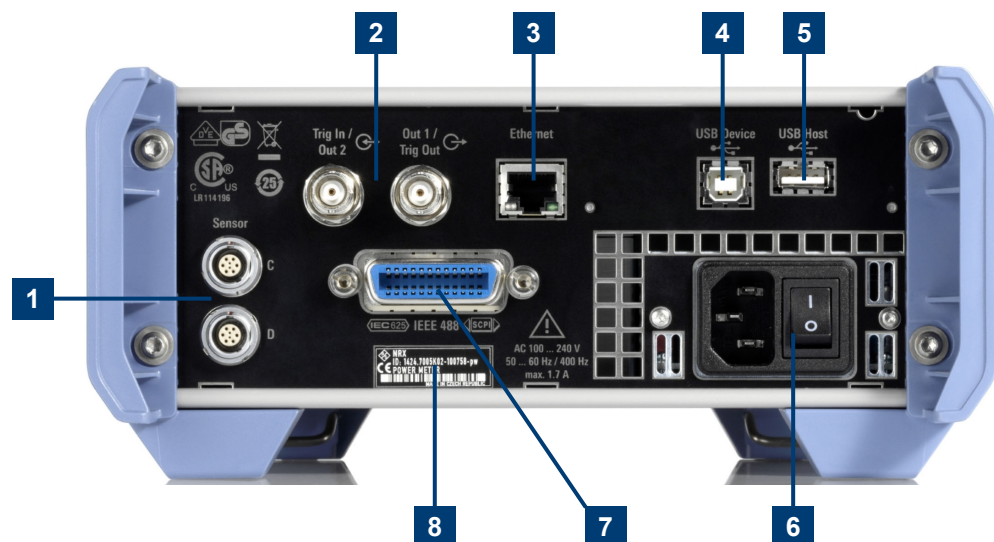

Figure 3-4: Rear panel of the R&S NRX
See (1) in Figure 3-4.
See (2) in Figure 3-4.
See (3) in Figure 3-4.
See (4) in Figure 3-4.
See (5) in Figure 3-4.
See (6) in Figure 3-4.
See (7) in Figure 3-4.
See (8) in Figure 3-4.